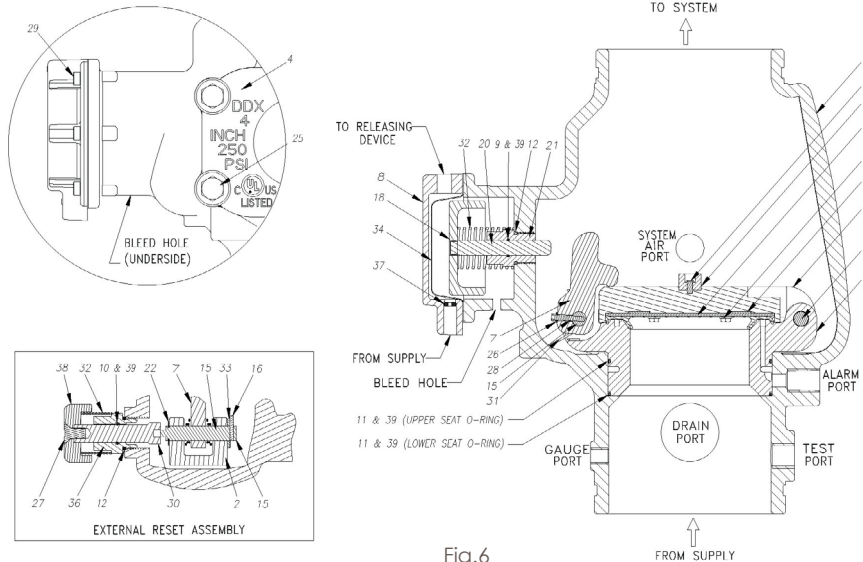

Fig.6
6. With the Model B Manual Emergency Station, valve D (Fig. 7), open, push in and rotate the Deluge Valve's external reset knob (#38, Fig. 6) clockwise until you hear a distinct clicking noise, indicating that the clapper has closed. Note: The reset knob can be rotated only after pressure in the push rod chamber is reduced to atmospheric conditions (0 psig).
4. Ball drip valve G (Fig. 7) - make sure that valve F (Fig. 7) is open. Push in on the plunger to be sure the ball check is off its seat. If no water appears, the Deluge Valve's water seat is tight. Inspect the bleed hole (see Fig. 6) on the underside of the push rod chamber for leakage.
This condition can be caused by leakage past the system side of the Model DDX Deluge Valve's seal faceplate subassembly (#5, Fig. 6). Be sure that this surface is free of any type of debris. To eliminate leakage due to a water column, refer to the section in this bulletin marked "Draining Excess/Condensate Water From System". If the problem continues proceed to the following section.
If system air is leaking out the ball drip valve, the problem is either damage to the air side of the Model DDX Deluge Valve's seal faceplate subassembly (#5, Fig. 6), seat (#2, Fig. 6), or the upper seat O-ring (#11, Fig. 6). If supply water is leaking out the ball drip valve the problem could be caused by damage to the Model DDX Deluge Valve's seal faceplate subassembly (#5, Fig. 6), seat (#2, Fig. 6), or lower seat O-ring (#11, Fig. 6). The following section provides instructions to correct both conditions: A) Shut down the valve controlling the water supply to the Deluge Valve and open the main drain valve B (Fig. 7). Open the water column drain valve E (Fig. 7). Close the push rod chamber supply valve A (Fig. 7) and open the Model B Manual Emergency Station D (Fig. 7). B) Remove the Deluge Valve's front (handhold) cover (#4, Fig. 6) and inspect the seat (#2, Fig. 6), clapper (#3, Fig. 6), and seal faceplate subassembly (#5, Fig. 6) for damage.
If inspection indicates damage to the clapper (#3, Fig. 6) or seal faceplate subassembly (#5, Fig. 6) only, then the clapper subassembly can be removed as follows: At the rear of the valve, disconnect the water column drain trim section starting with the elbow connector (#18, Fig. 2). Then remove the 1/4" globe valve (#28, Fig. 2) followed by the 3/4" x 1/4" reducing bushing (#13, Fig. 5). Remove the retaining ring (handhold cover side) from the clapper hinge pin (#14, Fig. 6) and push this pin through the water column drain line and remove the clapper subassembly. Remove the four retaining screws (#24, Fig. 6) holding the seal faceplate subassembly (#5, Fig. 6). Inspect the clapper (#3, Fig. 6) visually before reinstalling. Apply a small amount of silicone-based lubricant to the four retaining screws. Install a new seal faceplate subassembly. Torque the retaining screws to approximately 40 inch-pounds and reassemble. If the seat (#2, Fig. 6) is damaged or it is suspected that the leakage is through the lower O-ring (#11, Fig. 6), the seat-clapper subassembly is easily removed as a unit as follows:
Using a 5/16" Allen wrench, remove the two 3/8" NPT pipe plugs (#19 (not shown) Fig. 6) located on the side of the Model DDX Deluge Valve. The seat-clapper subassembly is retained by two locking pins (#17 (not shown) Fig. 6). The centers of these pins have a 1/4"-20 threaded hole. Remove the two locking pins by engaging them with a 1/4"-20 screw or threaded rod and pulling them out (The two locking pins are not threaded, so turning them with the attached 1/4"-
20 screw or threaded rod is not recommended. A proven method is to use ¼"-20 threaded rod with a locknut on the unassembled end. Grab hold of the locknut with pliers or vice-grips and tap the pliers or vice-grips in the direction away from the Deluge Valve. Doing so should pull the locking pins out of the Deluge Valve. With the clapper (#2, Fig. 6) in the closed position (not latched), dislodge the seat-clapper subassembly from the Valve's body by inserting two slotted screwdrivers under the lever and clapper mounting ears and pry up until the seat-clapper subassembly is free of its bore. Reach into the valve and grasp the seat-clapper subassembly from the sides. Lift up and rotate the seatclapper subassembly through 90 degrees about the centerline axis of the Model DDX Deluge Valve so that the lever side of the seat-clapper subassembly faces the outlet of the Deluge Valve. Rotate the seat-clapper subassembly around the centerline of the Deluge Valve until the top of the clapper faces the handhold opening and then pull it out clapper hinge-pin side first. Visually examine all components of the seat-clapper subassembly replacing any component that appears damaged. New O-rings (#11, Fig. 6) should always be used for reassembly.
It is likely that the lower seat O-ring (#11, Fig. 6) has remained at the bottom of the Deluge Valve body's bore. Discard this O-ring and clean the bore. Lubricate the bore with O-ring grease and place the lower seat O-ring on the step at the bottom of the bore, verifying that it is in full contact with the bore. Lubricate the bottom step and upper seat O-ring (#11, Fig. 6) of therefurbished seat-clapper subassembly. Insert the seat-clapper subassembly into the handhold opening of the Deluge Valve lever-first, rotating it until the lever side faces the outlet of the Deluge Valve. Rotate the seat-clapper subassembly until the lever (#7, Fig. 6) faces the push rod (#20, Fig. 6), then drop the seat-clapper subassembly into the Deluge Valve's bore. Verify that the seat-clapper subassembly is in the fully down position and check to see that the lever lines up with the push rod. Adjust if necessary. Clean and lubricate the two locking pins (#17(not shown) Fig.6) with O-ring lubricant and drive them into the Deluge Valve body. Then reinstall the 3/8" NPT pipe plugs (#19 (not shown) on Fig. 6). Reassemble the handhold cover and set up the Model DDX Deluge Valve as per the section "Resetting the Type F Double Interlock Preaction System." 3.Leakage out of the push rod chamber vent hole: A small bleed hole is located on the underside of the push rod chamber (see Fig. 6). If there is air or water leakage coming out of this hole, do the following:
- b. Remove the trim at the unions nearest to the push rod chamber cover (#8, Fig. 6).
- c. Take the push rod chamber cover (#8, Fig. 6) off by removing the six retaining screws (#29, Fig. 6).
Water coming out of the bleed hole is caused by a leaking diaphragm (#34, Fig. 6). Visually inspect the push rod chamber cover (#8, Fig. 6) and piston (#18 Fig. 6) to determine what could have damaged the diaphragm and correct. Install a new diaphragm. NOTE: The diaphragm has two different surfaces, it is not bi-directional. It will fail if installed backwards! Roll the diaphragm so that the smooth surface (the pressure side) conforms to the inside of the push rod chamber cover and reassemble the six retaining screws (#29, Fig. 6) with an installation torque of 15 foot-pounds. Set up the Model DDX Deluge Valve as per the section "Resetting the Type F Double Interlock Preaction System."
System air coming out of the bleed hole is caused by a defective O-ring assembled to the push rod guide (#21, Fig. 6). Remove the piston-push rod subassembly, push rod spring (#32, Fig. 6), and push rod guide (#21, Fig. 6). Verify by hand turning, that the push rod cannot be unscrewed from the piston. Replace all O-rings and the push rod guide. The correct installation torque for the push rod guide is 35 inch-pounds. CAUTION: Do not over-tighten the push rod guide. Reassemble the components that were initially re-moved. Reinstall the diaphragm (#34, Fig. 6) if it appears to be in good shape, otherwise, replace it also. NOTE: The diaphragm has two different surfaces, it is not bidirectional. It will fail if installed backwards! Roll the diaphragm so that the smooth surface (the pressure side) conforms to the inside of the push rod chamber cover and reassemble the six retaining screws (#29, Fig. 6) with an installation torque of 15 foot-pounds. Set up the Model DDX Deluge Valve as per the section "Resetting the Type F Double Interlock Preaction System."